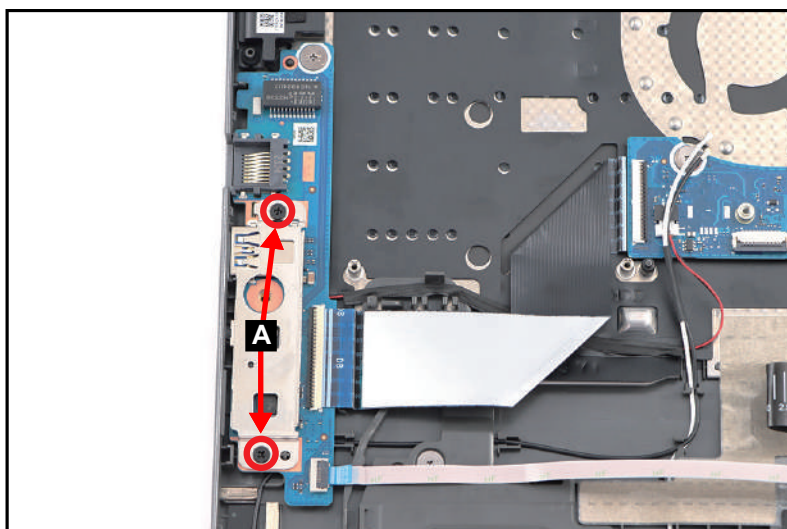

Figure 3-60. Mainboard Removal
1. Remove two (2) screws (A) securing the left IO bracket (Figure 3-60).